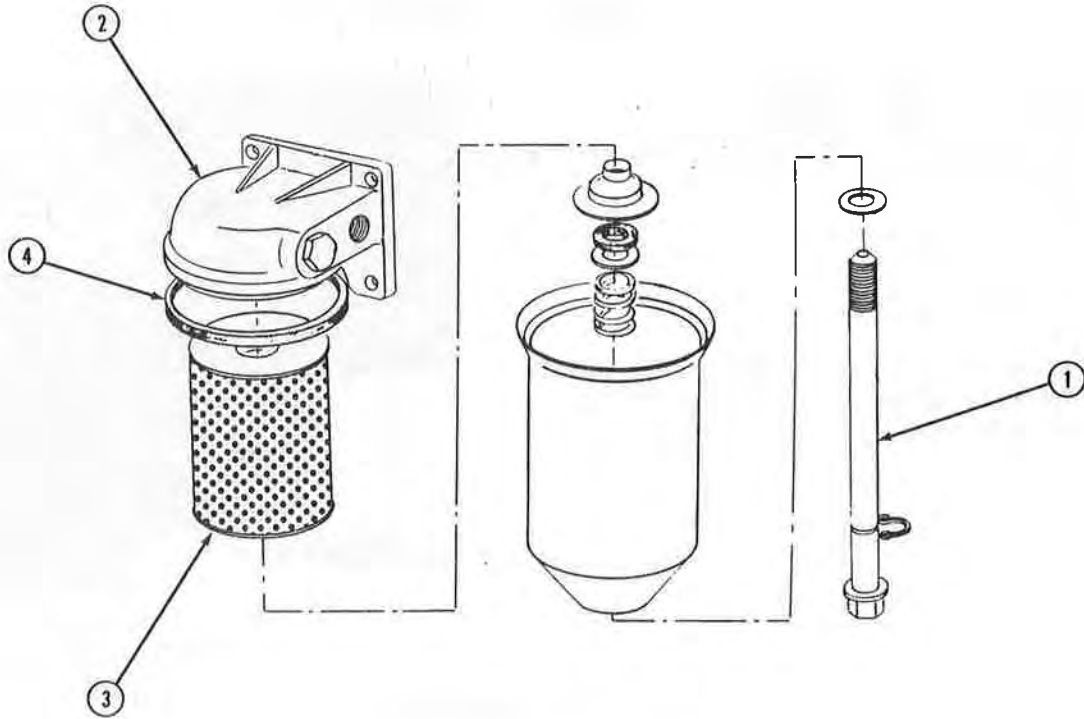

Figure 170
3. Unscrew shell retaining bolt (1, Figure 170) from head assembly (2). Remove dirty filter element (3) and shell assembly from head. Discard dirty filter element.
4. Wipe off all components to remove foreign particles. Be sure that seal gasket (4) and mating surfaces are thoroughly cleaned.